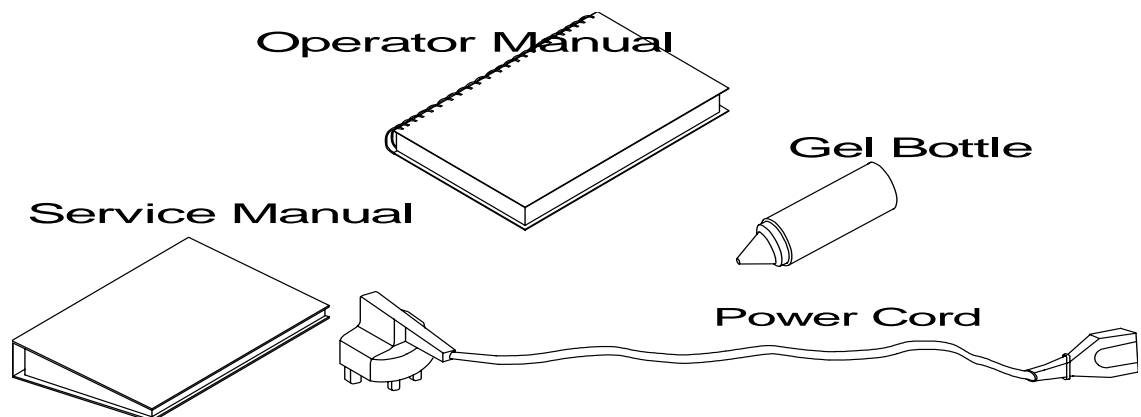

Figure 3-3 Unpacking LOGIQ™ α 100/LOGIQ™ 100 PRO
- 4.) Remove the Operator Manual, Service Manual, Gel Bottle, Power Cord and other accessories kept on either side of the equipment. Refer Figure 3-3.